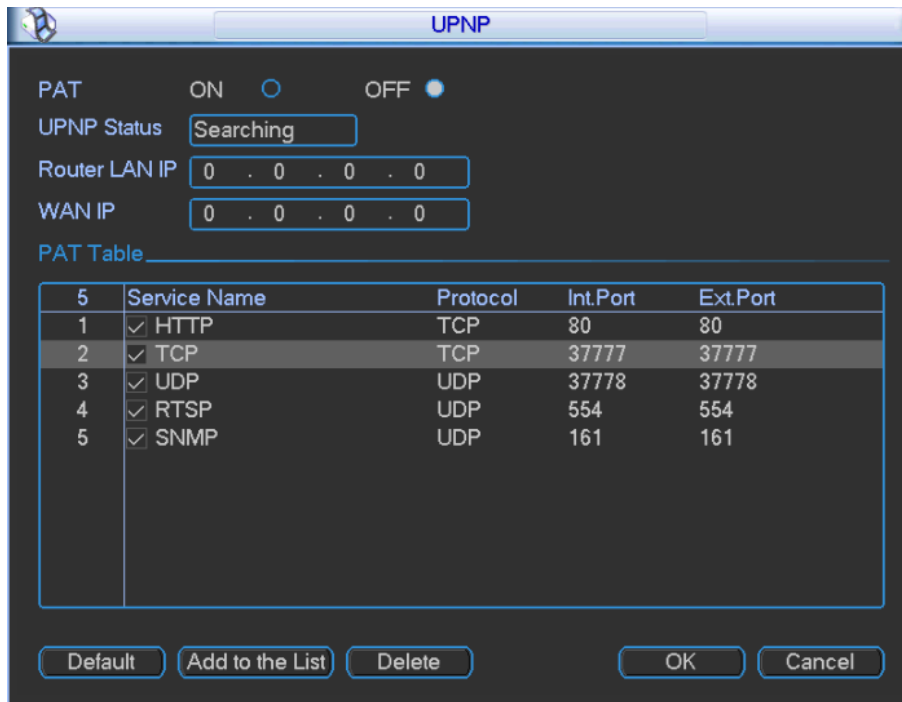

Figure 3-43
Step 1 In main menu, select "Setup> Network> Network Setup > UPNP", and the system displays "UPNP" interface, as shown in Figure 3-43.